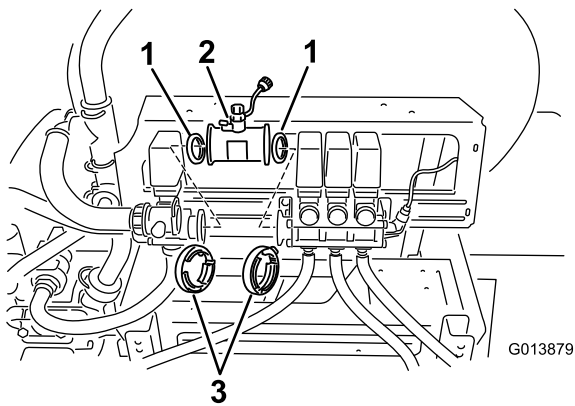

Figure 6
- Install the flowmeter in-line between the agitation and boom valve assemblies with the flow arrow pointing toward the 3 boom valves (Figure 6).
- A. Install the existing gasket into the flowmeter side that will mate with the agitation valve (Figure 6).